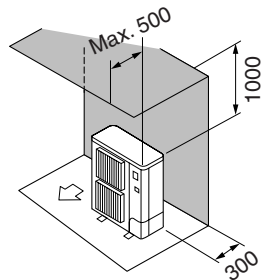

Fig. 3-6
- ② Obstacles at rear and above only (Fig. 3-6)